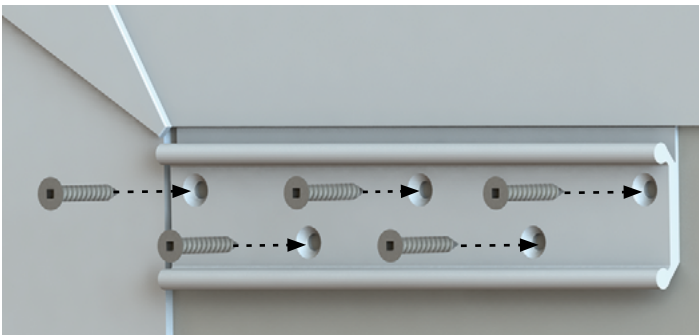

Fig.10
**3.** Fasten the mounting bracket to the slide-out exterior wall using the five provided #10 -16 x 1 ¼" recessed square head screws (Fig.10).